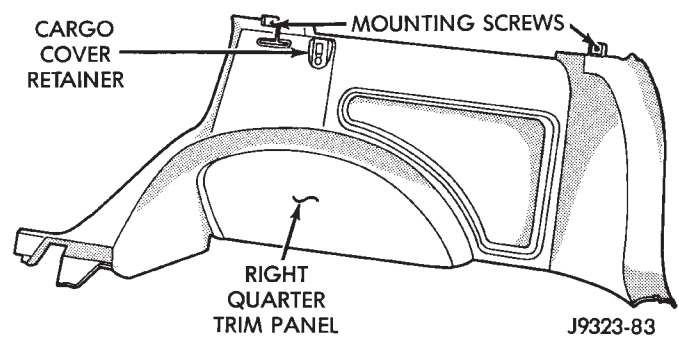

Fig. 9 Right Quarter Trim Panel
- (1) Pull rear seat bottom forward and fold down rear seat.
- (2) Remove lower retaining screw at rear door opening (Figs. 9 and 10).
- (3) Remove tonneau cover (If applicable).
- (10) Remove quarter trim panel mounting screws (Figs. 9 and 10).